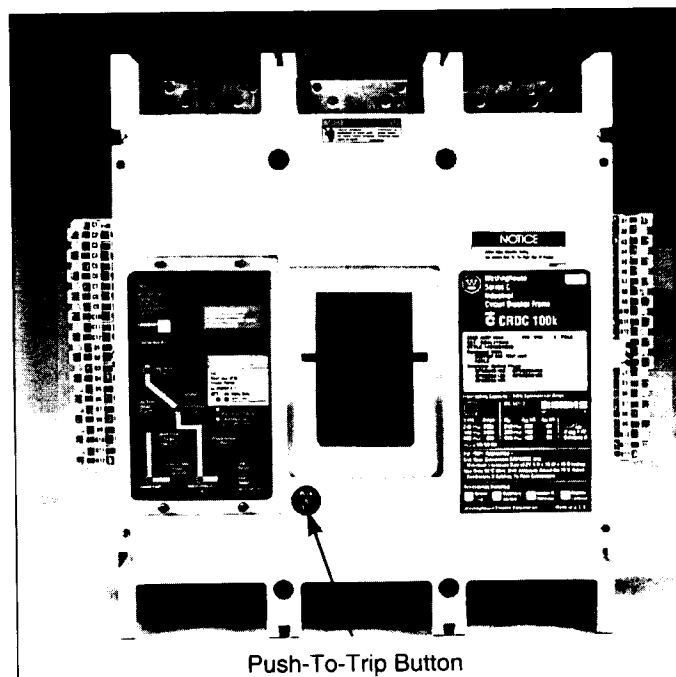

Figure 2-7 OPTIM Trip Unit Mounted in Series  $\bar{C}$  R-Frame Circuit Breaker
- Series  $\bar{C}$  R-Frame (800-2500 amperes) (Figure 2-7)